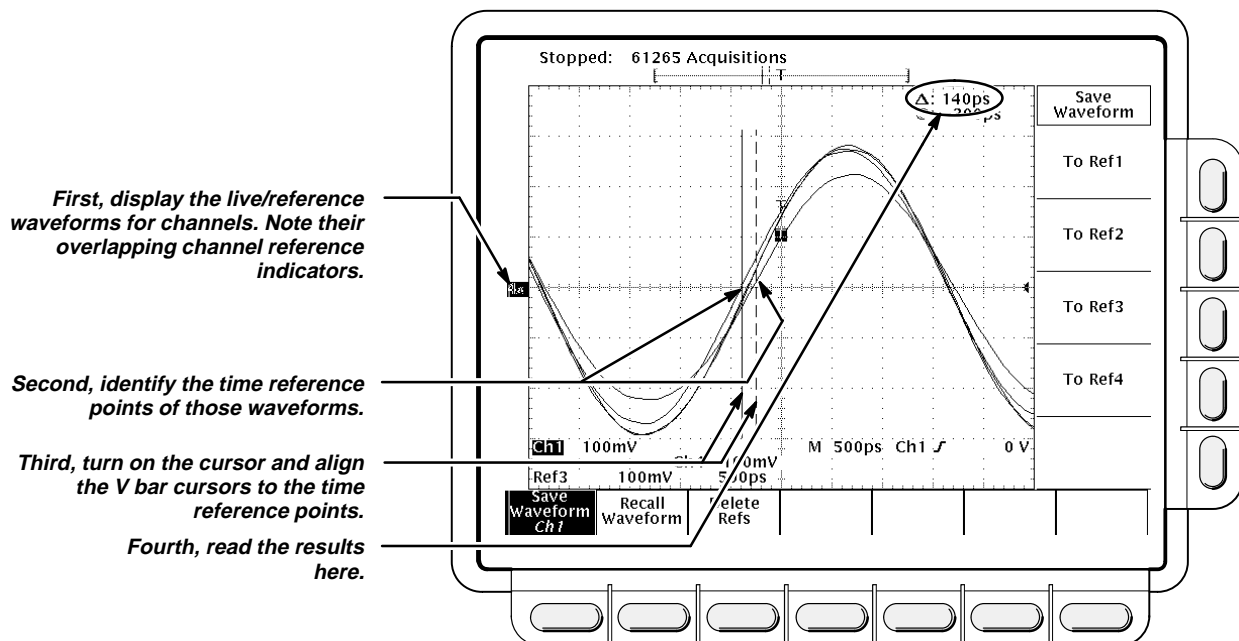

Figure 1-11: Measurement of Channel Delay
- Locate the point on the rising edge of the left-most waveform where it crosses the center horizontal graticule line. This is the *time reference point* for this waveform. Note the corresponding *time reference point* for the right-most waveform. See Figure 1-11.
- Rotate the General Purpose knob to align one cursor to the *time reference point* of the left-most waveform edge and the other cursor to the *time reference point* of the right-most waveform edge. (Press **TOGGLE** to switch between the two cursors.) See Figure 1-11.